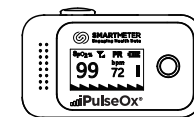

Figure 6
- 2.The device takes only a moment to take the reading. The SpO2 value and PR value will be displayed on the OLED screen after the plethysmograph wave and measured values are stable, as shown in **Figure 6**.